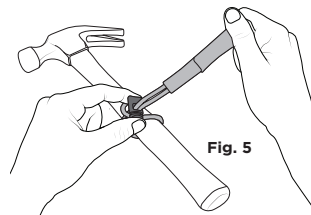

Fig. 5
- c. Choke Elastic Loop/Cinch Tool Tail™ onto the tool by sliding it around the tool’s shaft and snug the barrel lock down tightly if applicable. [fig 5]